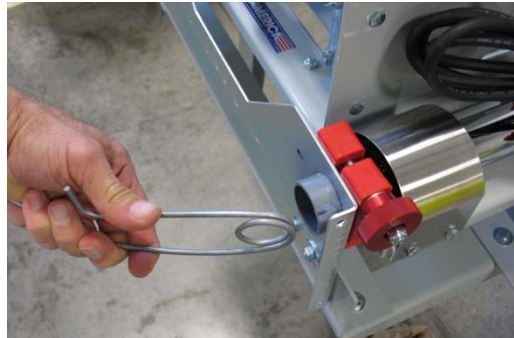

Figure 18: Installing Cord Keeper TR2
9. Install cord keeper into end of guide tubes by squeezing ends and pushing into end of tubes (Fig. 18).